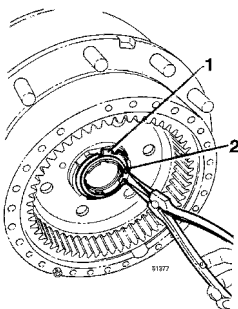

Figure 11
33. Lock the hub nut with lock washer and lock ring, see Figure 11.